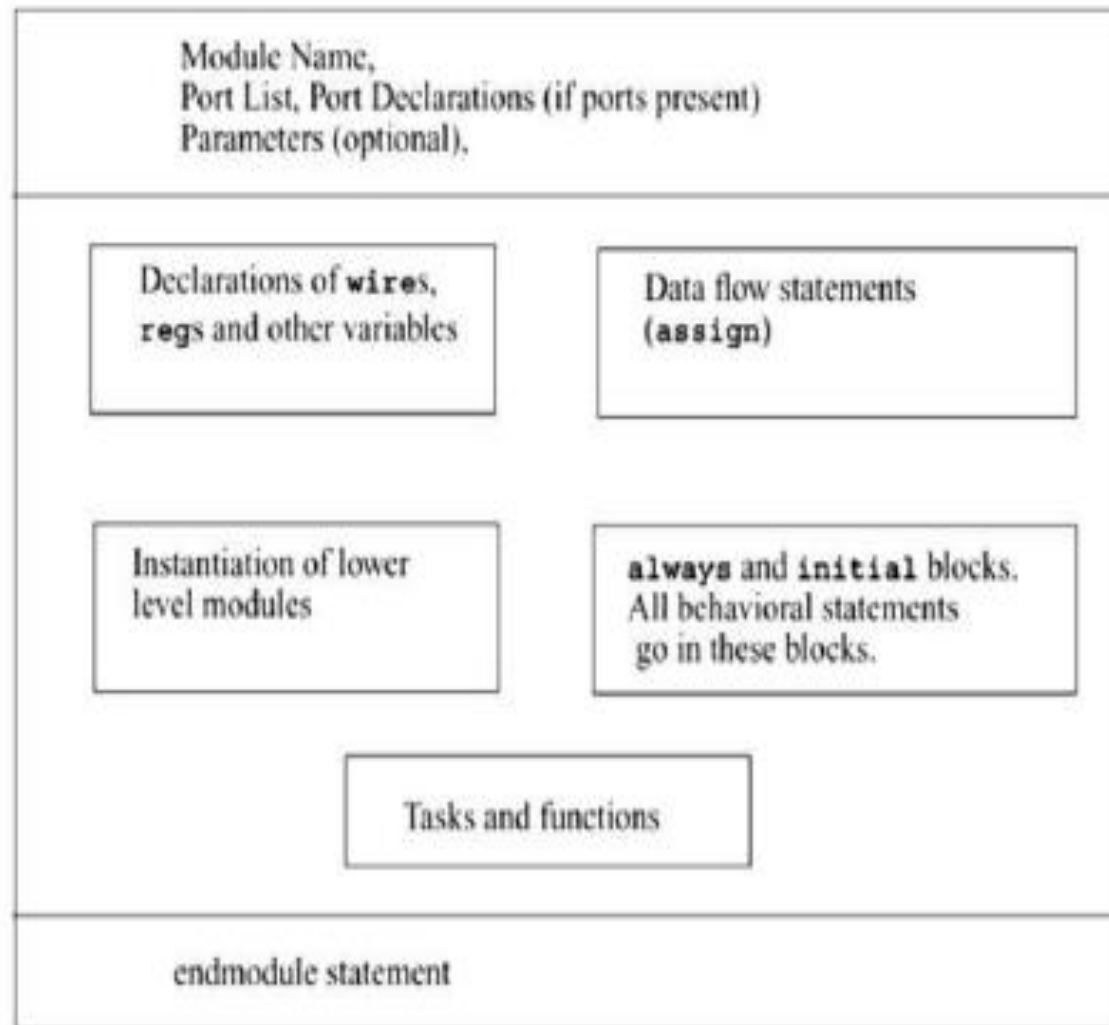

Figure 2.2.:Components of a Verilog Module
- In the SR latch definition above ,all components described in Figure 2-2 need not be present in a module.